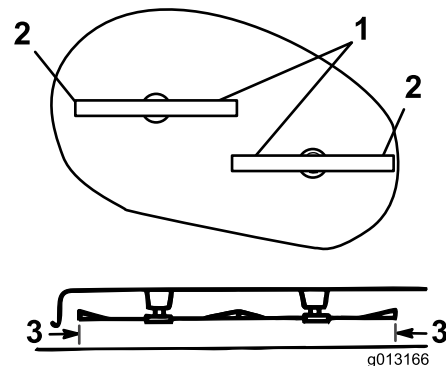

Figure 43
1. Carefully rotate the blades side to side (Figure 43).
2. Measure between the outside cutting edges and the flat surface (Figure 43). Ensure that the
- Raise or lower the right side of the mower housing by turning the nuts until the distance from the outside edges of the blades to the flat surface (Figure 43) are within 3 mm of each other, and tighten the nuts on the front and rear adjustable links.